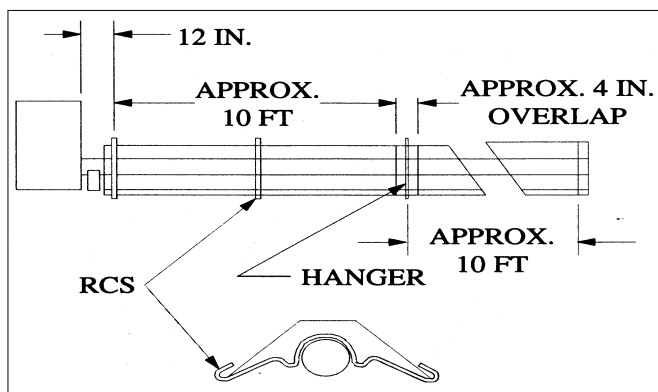
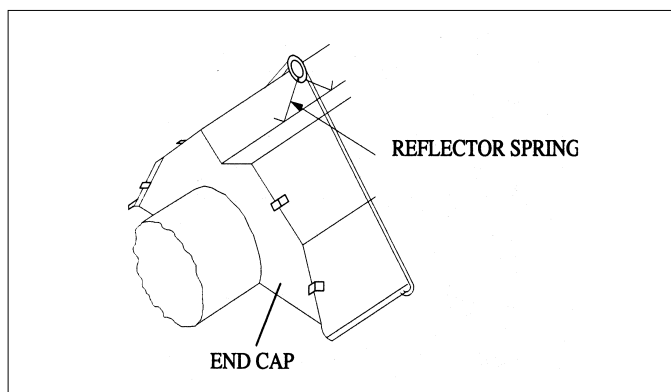

Figure 1-11
Figure 1-12
1. Install reflector center supports (RCS) as shown in Figure 1-11.
2. Slide reflector through wire hangers and adjust the reflector positioning spring in the V-groove on top of the reflector as shown in Figure 1-12. Overlap reflectors 4 in. for support (See Figure 1-11).
2. Install reflector end caps at exposed ends of the reflector runs with clips (Figure 1-12).